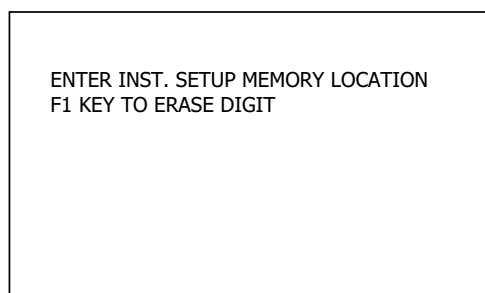

Figure 2-15
3. Choose a memory slot and finalize the save on screen shown in Figure 2-15.